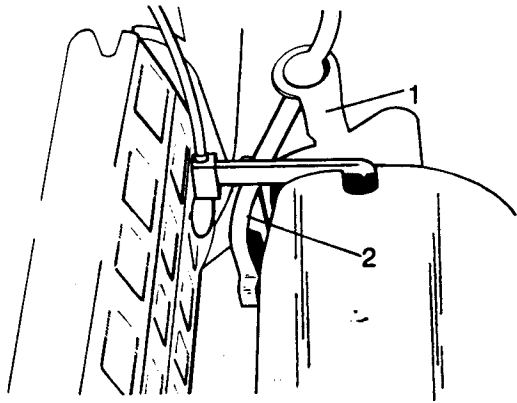

Fig H2.3
- (8) Refer to Fig H2.3. Replace the link (2) and spring that join the lever of the transfer box to the high and low gear selector.
- (9) Refit the transfer box gear lever (1) into the bracket fixed to the clutch housing.
- (10) Replace the fixings of the rear transfer box mountings.
- (11) Refit the transmission brake coupling mechanism.
- (12) Replace the speedometer cable.
- (13) Refit the front and rear propeller shafts (see Sub-sub-section H4.3).
- (14) Fill the transfer box with the correct grade of oil (see Sub-sub-section H2.5).